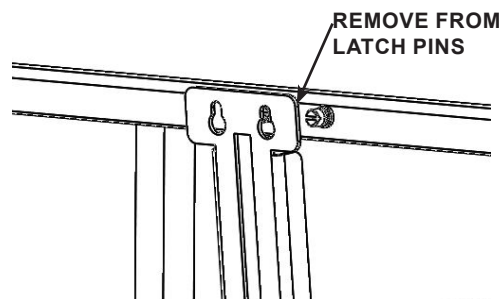

**FIGURE 2.6 - Standard Double Door Latch Bar**
*The latch bar has keyed (hole with a smaller slot) top holes. And the bottom of the latch bar uses open end slots, enabling the bar to be slid out from behind the latch bar retaining pins. See FIGURE 2.6*